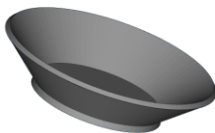

Figure 1 Color disc 2 mm
1. *Color disc* (Figure 1) to measure the color of the material before and after sterilization.